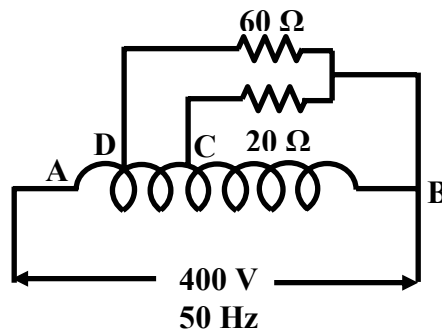

Figure 27.8:
1. The following figure 27.8 shows an ideal autotransformer with number of turns of various sections as $N_{AB} = 100$, $N_{CB} = 60$ and $N_{DB} = 80$. Calculate the current drawn from the supply and the input power factor when the supply voltage is 400V, 50Hz.